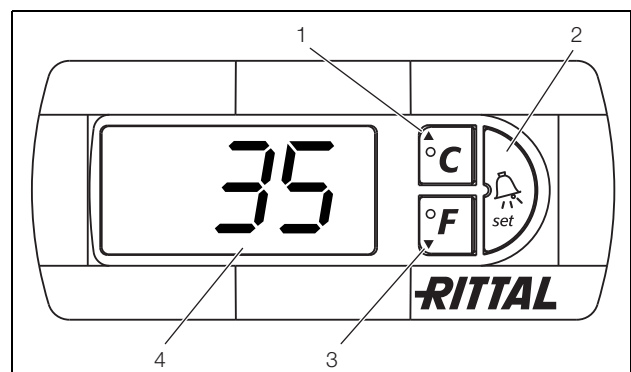

Fig. 30: e-Comfort controller
The cooling unit operates automatically, i.e. after switching on the power supply, the evaporator fan (see fig. 3) will run and circulate the internal enclosure air. The compressor and condenser fan are regulated by the e-Comfort controller. The e-Comfort controller has a 7-segment display (fig. 30, item 4). After switching on the power supply, the current software version initially appears on this display for approx. 2 seconds together with the symbol to show Eco mode is enabled, followed by a preset option (e.g. t10) or the temperature.
The unit is programmed using buttons 1 – 3 (fig. 30). The relevant parameters also appear in the display.
- Simultaneously press buttons 1 and 2 (fig. 30) for at least 5 sec.
Using buttons 1, 2 and 3 (fig. 30) you can change 24 parameters within the preset ranges (min. value, max. value).